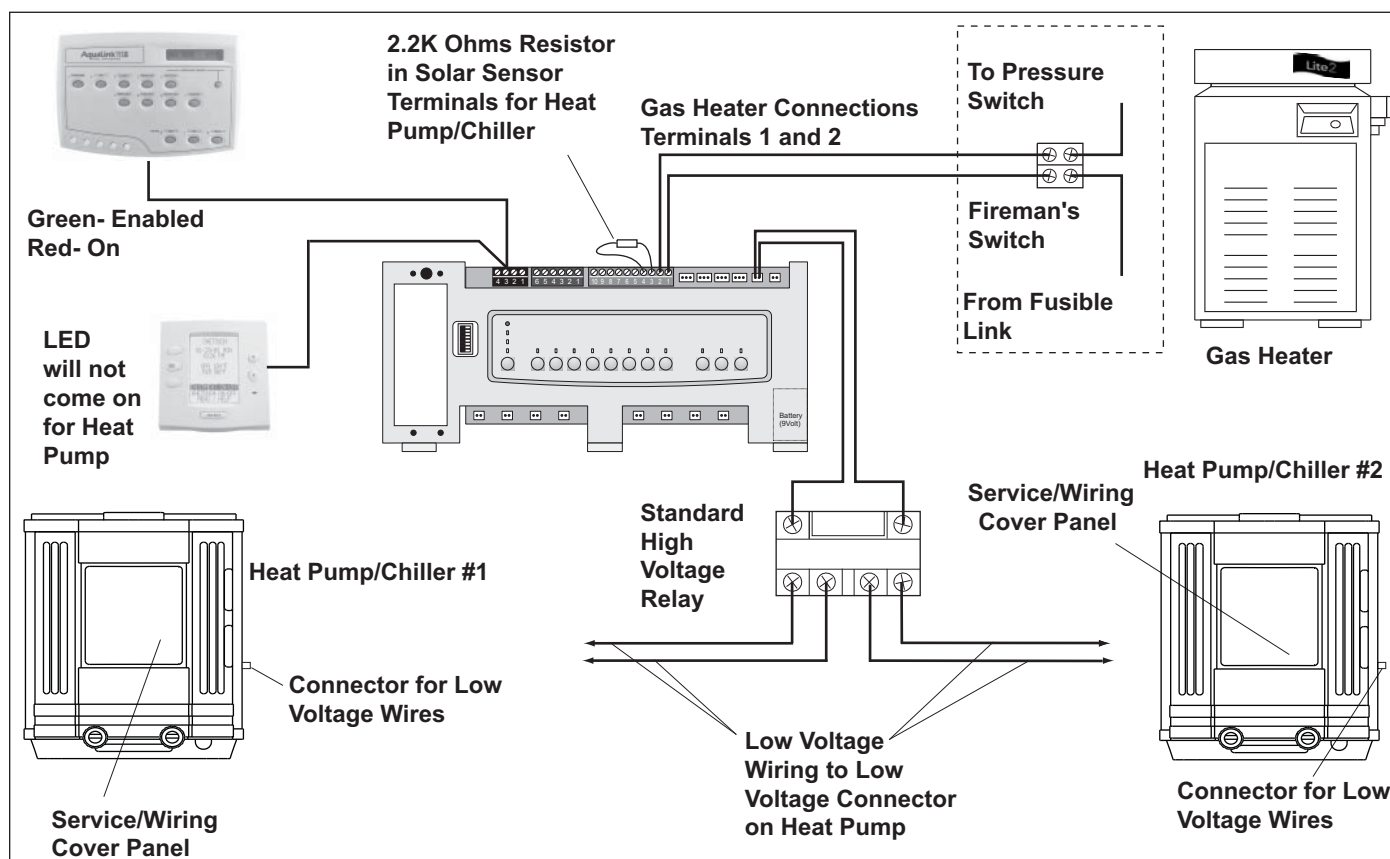

Figure 13. AquaLink RS to AE-Ti Heat Pump/Chiller Wiring
1. Install a fixed resistor, with a value of 2.2K Ohms, in the solar sensor terminals #3 and #4 of the green, 10-pin terminal bar of the AquaLink RS Power Center (see Figure 13). (Resistor is included with the Heat Pump.)